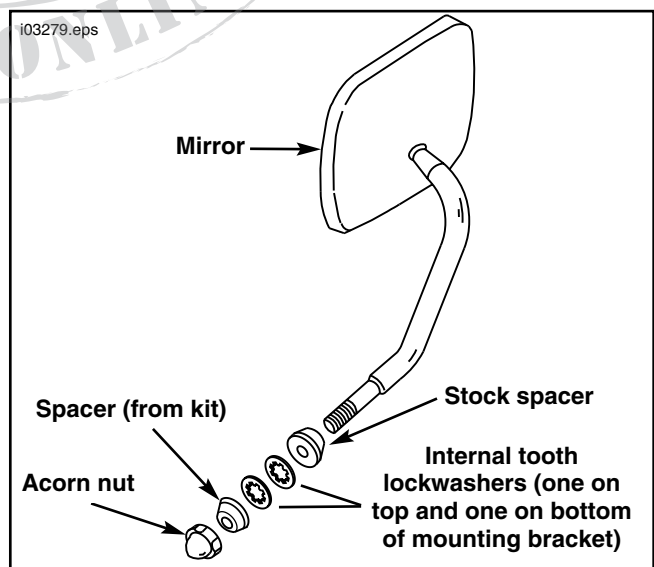

Figure 2. Re-installing Right Mirror
- b. See Figure 2. Install acorn nut from kit to retain right mirror. If acorn nut "bottoms" without tightening, add the second spacer from kit in the location shown.